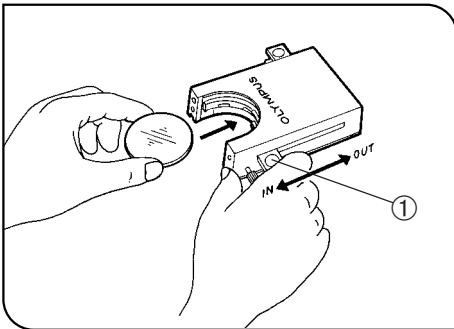

Fig. 7
Using the Filter Cassette (Figs. 7 - 10)
2. Slide lever ① to the IN position. Make sure that it clicks securely into place. (Fig. 7)
3. Holding the lever in the position shown in Fig. 7, put the filter into the cassette by inserting it in the direction indicated by the arrow.